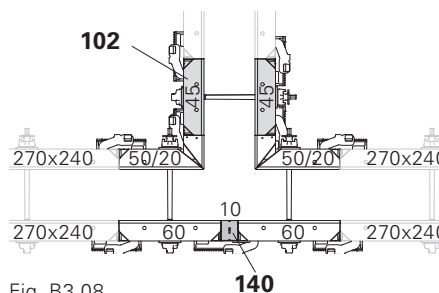

Fig. B3.08
Max. panel width at the T-junction between corner and subsequent panel is 45 cm – MX 18, 270 x 45 (102). (Fig. B3.08)